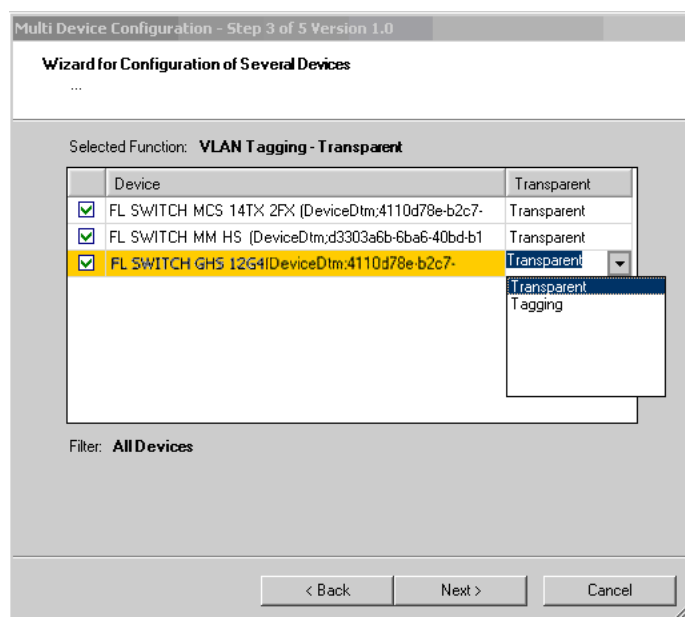

Figure 4-19 Selecting the tagging mode
- Step 3: A list is displayed of all the devices that support VLAN tagging (see Figure 4-19)
- In the table, devices can be simultaneously selected as "Transparent" or "Tagging" (see Figure 4-19)